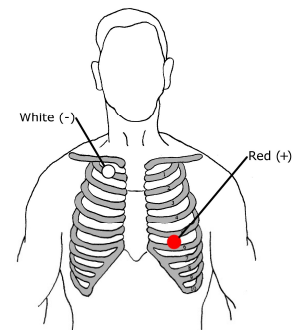

Figure 1
3. Adhere electrodes to you as in Figure 1.
Figure 1 indicates a typical placement of the electrodes. The actual placement will be determined by the physician instructions.